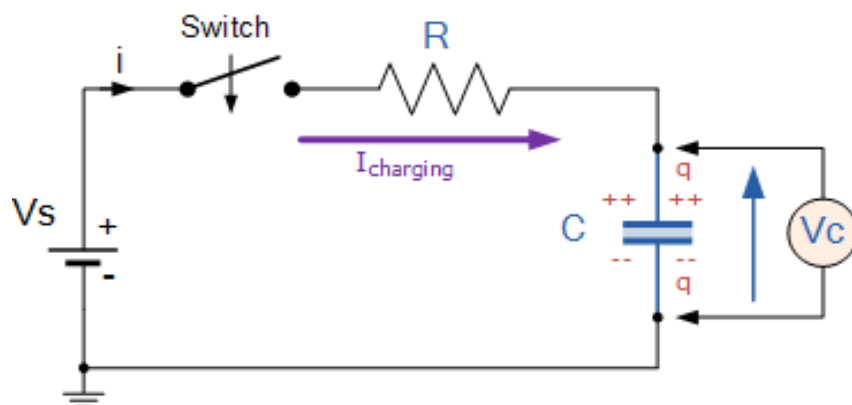

Figure 3.3: RC charging circuit
1. Make the connections as shown in figure 3.3.